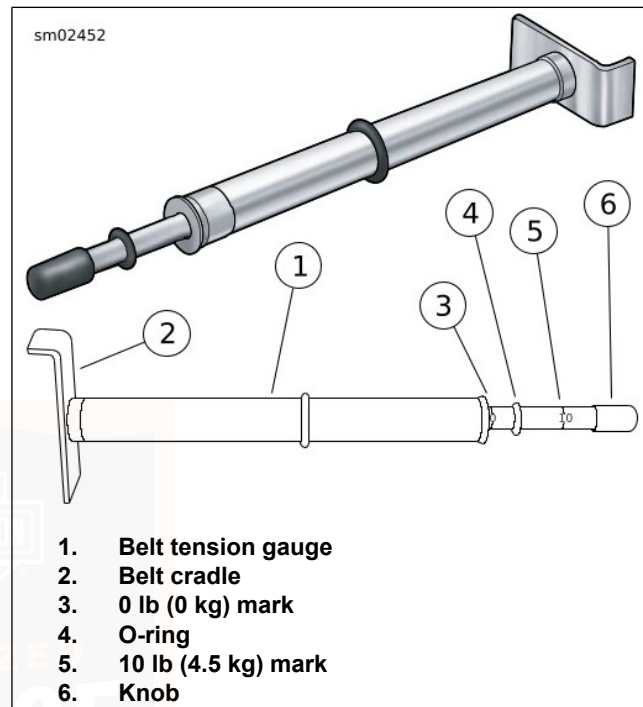
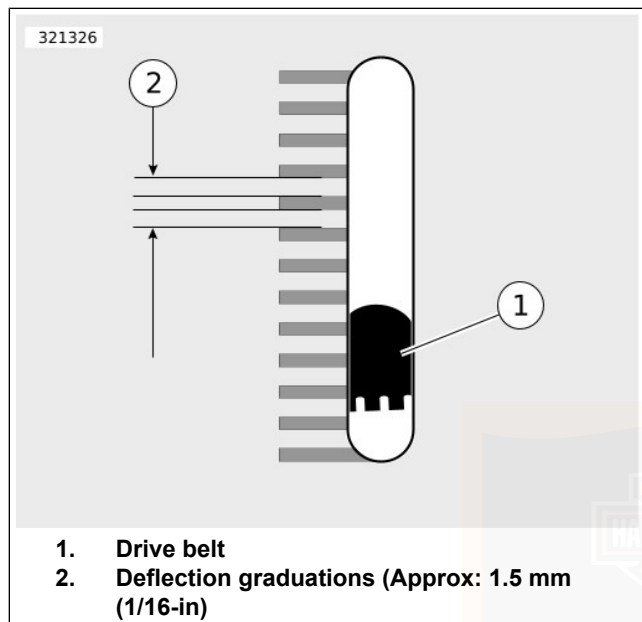

Figure 65. Belt Tension Gauge
Figure 66. Belt Deflection Window
3. See Figure 65. Measure belt deflection using BELT TENSION GAUGE (PART NUMBER: HD-35381-A):
- a. Slide O-ring (4) to zero mark (3).
- b. **Models equipped with belt deflection window:** Fit belt cradle (2) against bottom of drive belt in line with belt deflection window.
- c. **All other models:** Fit belt cradle (2) against bottom of drive belt halfway between drive pulleys.
- d. Press upward on knob (6) until O-ring slides down to 4.54 kg (10 lb) mark (5) and hold steady.
- a. **Models equipped with belt deflection window:** See Figure 66. Measure belt deflection as viewed through belt deflection viewing window while holding gauge steady. Each deflection graduation is approximately 1.6 mm (1/16 in).